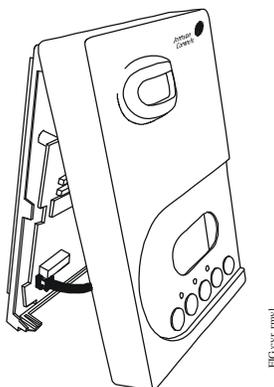

Figure 1: Removing the Thermostat Cover (TEC2104-4+PIR Model Shown)
2. Pull the bottom edge of the thermostat controller cover and open the thermostat controller as illustrated in Figure 1.